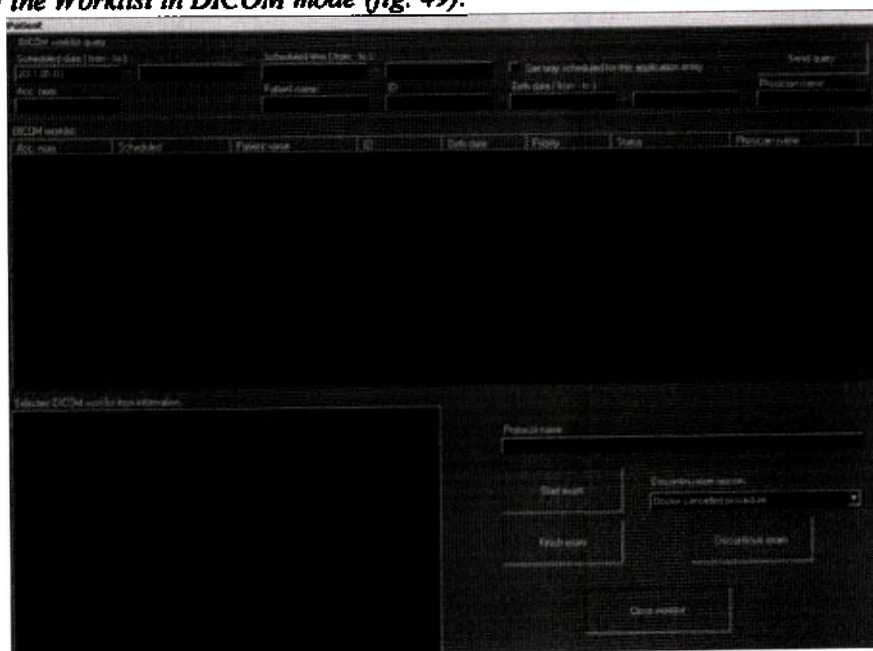

Figure 49. Worklist in DICOM mode
14.5. Use of the Worklist in DICOM mode (fig. 49):